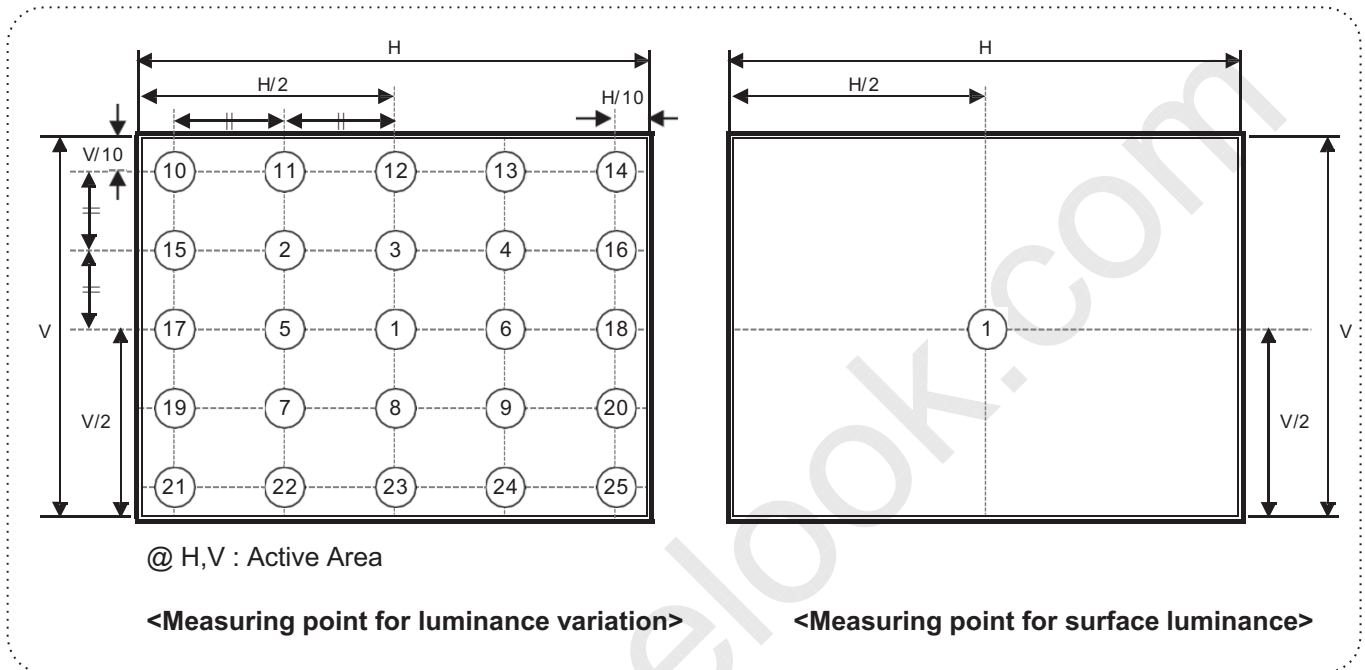

FIG.8 Measure Point for Luminance
2. Surface luminance(L_{WH}) is luminance value at Center 1 point(P1) across the LCD surface 50cm from the surface with all pixels displaying white. For more information see FIG.8 (By PR880)
Where P1 to P25 are the luminance with all pixels displaying white at 25 locations. For more information see FIG.8